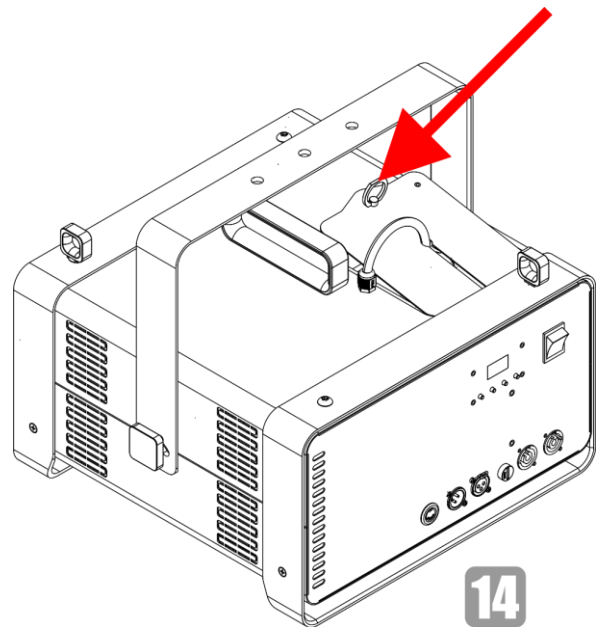

Fig. 20
- 14) Close the service lid, as shown in Fig. 20.